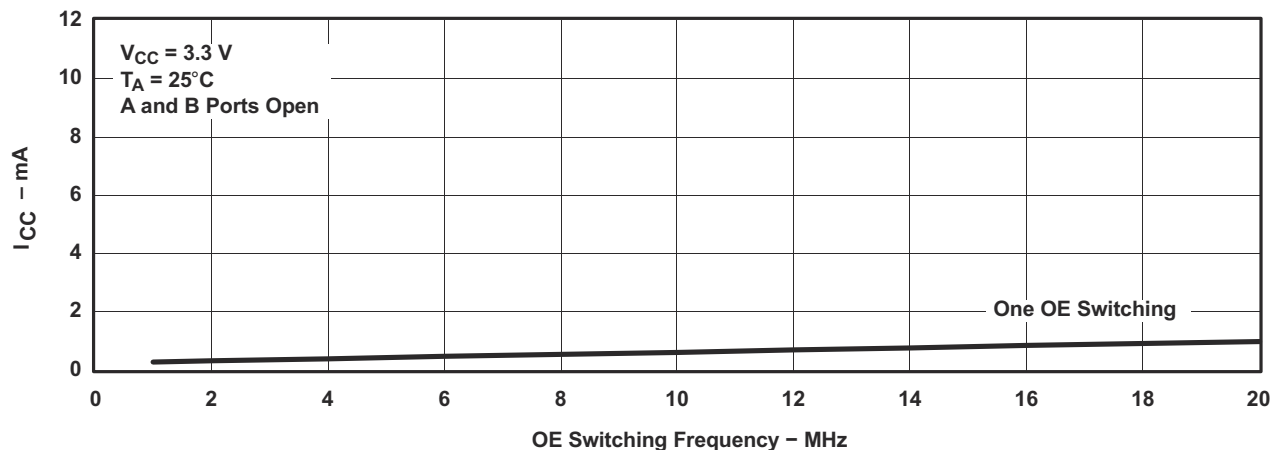

图 9-2. Typical  $I_{CC}$  vs OE Switching Frequency
(2) All typical values are at  $V_{CC} = 3.3 \text{ V}$  (unless otherwise noted),  $T_A = 25^\circ\text{C}$ .
(3) For I/O ports, the parameter  $I_{OZ}$  includes the input leakage current.
(4) This is the increase in supply current for each input that is at the specified TTL voltage level, rather than  $V_{CC}$  or GND.
(5) This parameter specifies the dynamic power-supply current associated with the operating frequency of a single control input (see Figure 9-2).
(6) Measured by the voltage drop between the A and B terminals at the indicated current through the switch. ON-state resistance is determined by the lower of the voltages of the two (A or B) terminals.